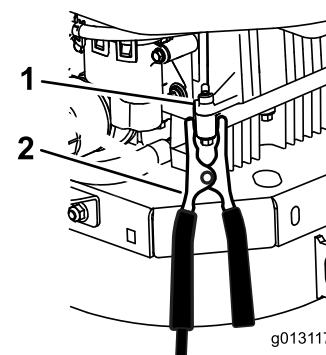

Figure 50
6. Make the final connection on the **engine block** (not on the negative battery post) of the machine with the discharged battery, away from the battery, and stand back (Figure 50).